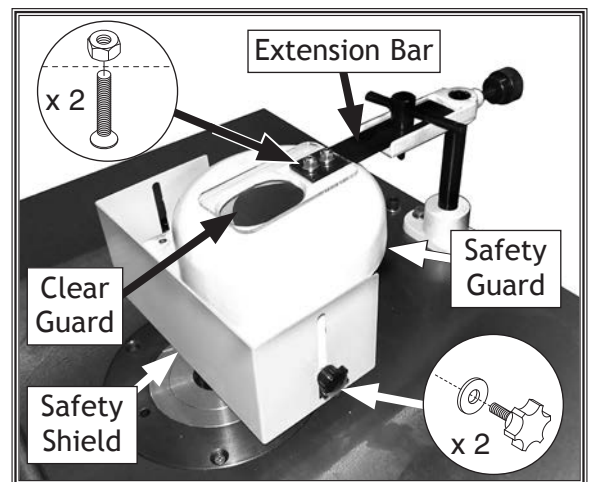

Figure 6. Safety shield and clear guard installed.
1. Remove (2) $\frac{1}{4}$ "-20 x $\frac{3}{8}$ " flat head screws and (2) $\frac{1}{4}$ "-20 hex nuts connecting extension bar to safety guard (see Figure 6).
3. Attach safety shield to safety guard using (2) $\frac{1}{4}$ "-20 x $\frac{1}{2}$ " knob bolts, and (2) $\frac{1}{4}$ " flat washers (see Figure 6).